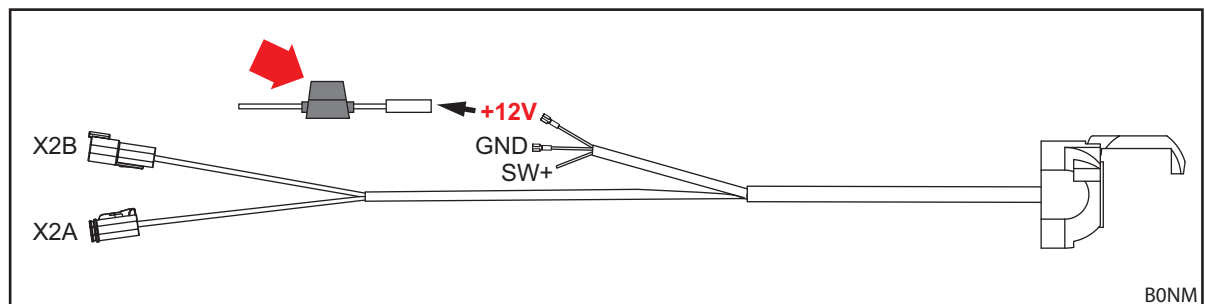

Fig. 53 STOLL ISOBUS wiring harness
- Locate and check the fuse (ID no. 0484860, see red arrow in Fig. 53):